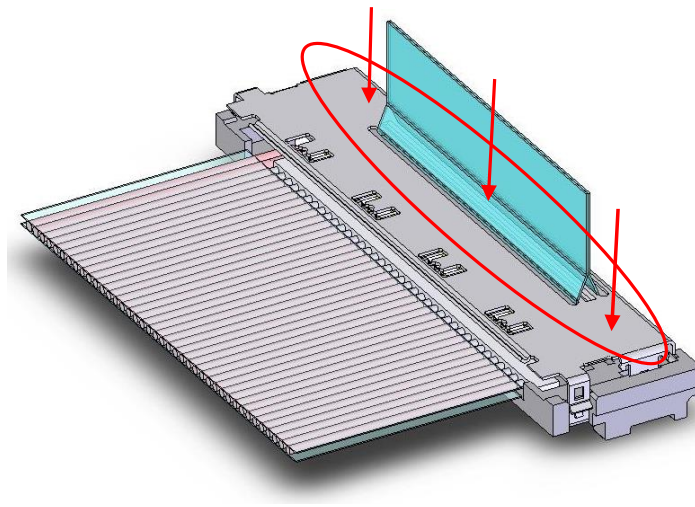

Fig.6 Insert of Shell-A (Correct)
③ The ○ part (see Fig.6) of shell-A is pushed and inserted.